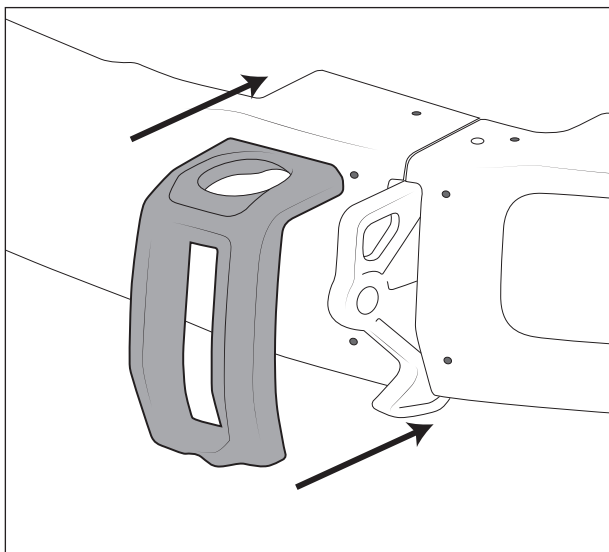

Figure 30
1. Install one side tow loop bezel with M6 x 20 bolts and washers (fig. 30). Hand tighten.